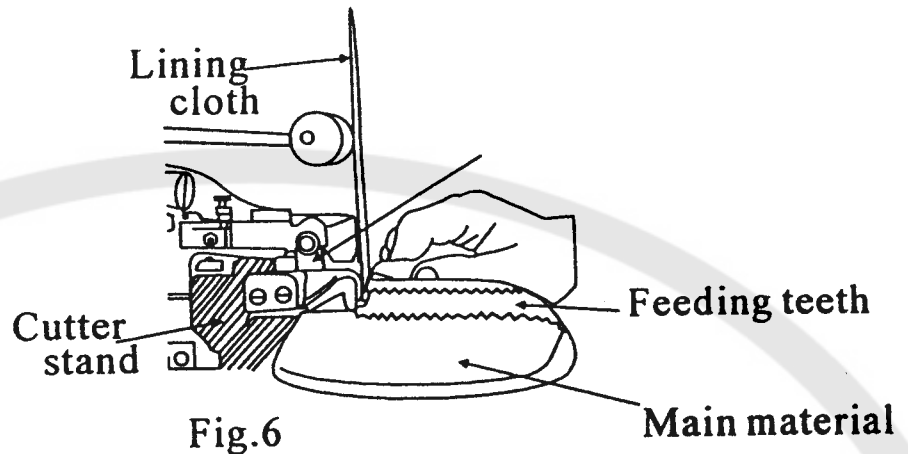
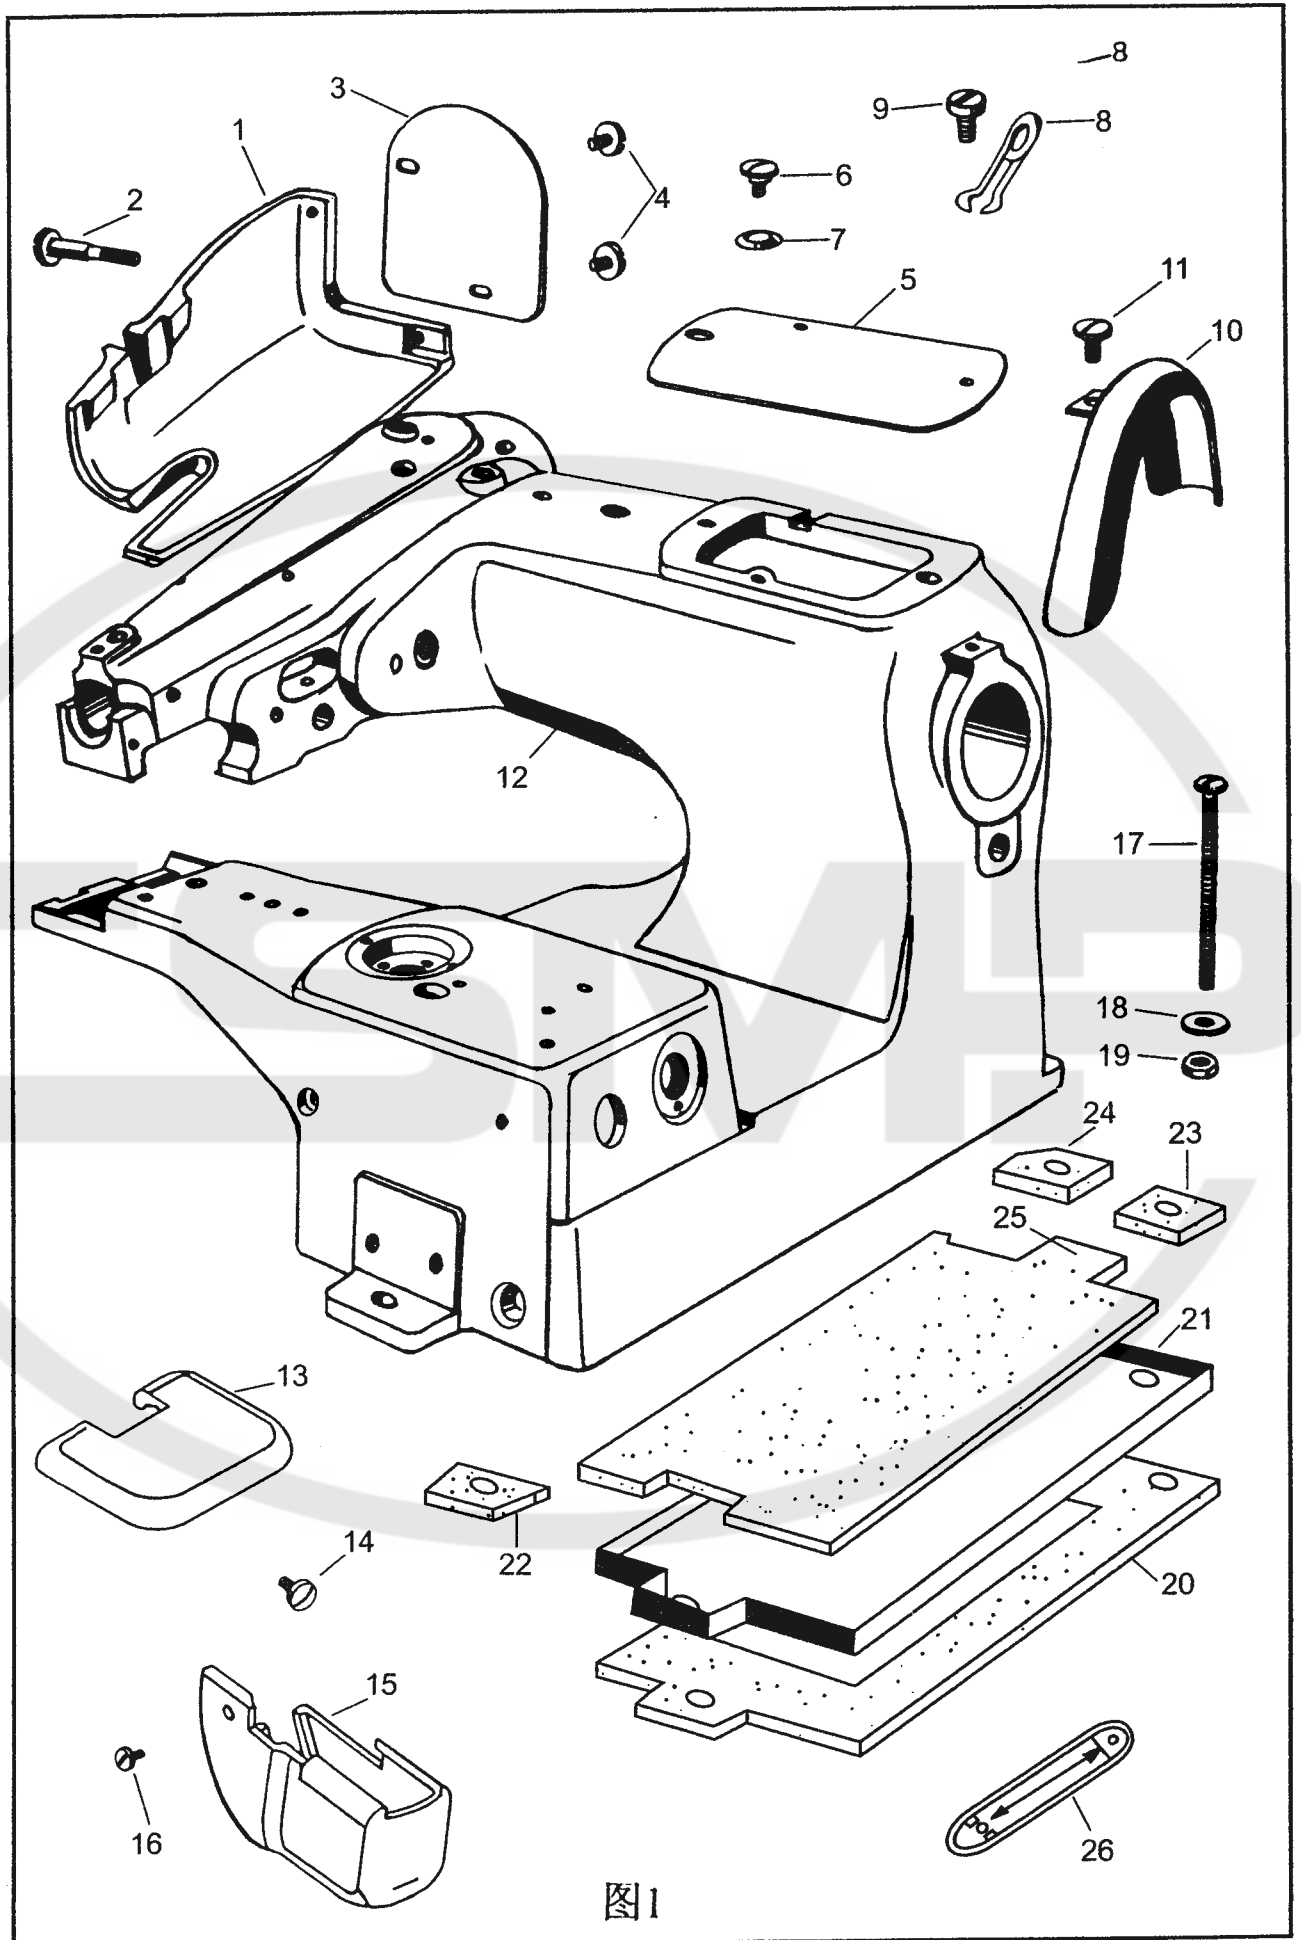

Fig.6
图1
Notice: The distance between small pulley and workplate should be about 60mm. (Fig. 1).
3. Lining cloth is installed on the big bulley. (Fig.1) Clamp the front part of the lining cloth with the clamp. Then above the main material. (Fig.6)